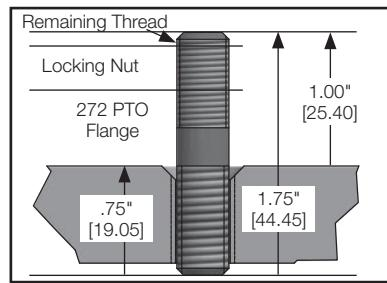

Figure 6
4. Install the studs until the shoulder of the stud is flush with the transmission mounting surface. **DO NOT** install studs with shank below the aperture surface. Install studs with hand tools. **DO NOT** use power tools to install studs (**Fig. 6**).